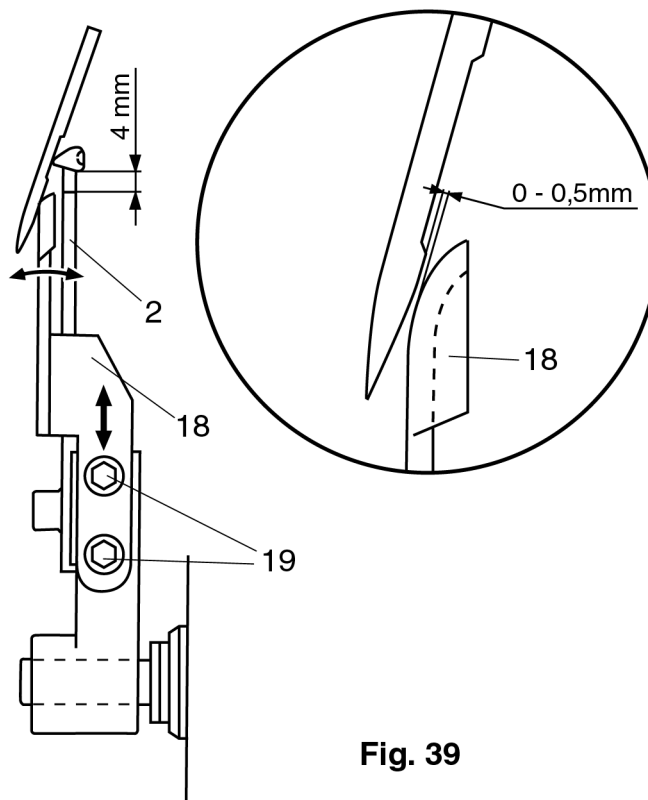

Fig. 39
When the looper point of the lower overedge looper 2 is exactly at the center line of either needle "R1" or needle "R2" when moving to the right, the needles should have a clearance of 0 - 0.05 mm to the needle guard 18 (fig. 39).
- Push the rear needle guard 18 so that the clearance, as seen in fig. 39, is set.